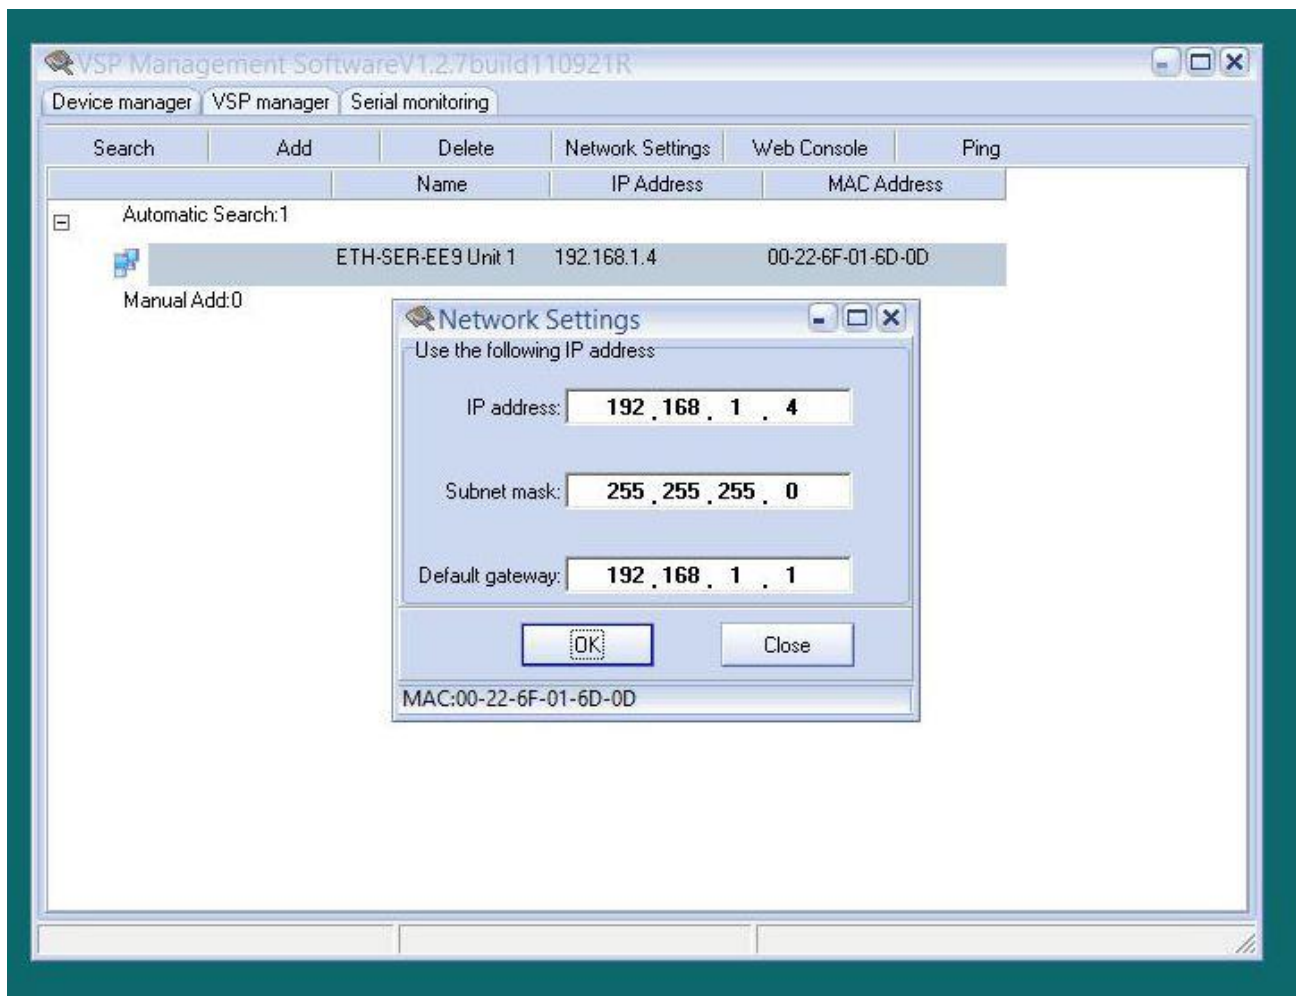

FIGURE 4.18 – ALTERING THE NETWORK SETTINGS
- 6) Highlight the search results and select Network Settings. Now you must put in the correct IP information. Our IP will be 192.168.1.4 - 192.168.1 for the matched network and 4 for the unique ID. Enter the subnet mask. Our subnet mask is 255.255.255.0 (the three 255s masks the network id and 0 masks the unique ID). The Default Gateway is 192.168.1.1. Your information will be different. (SEE FIGURE 4.18).